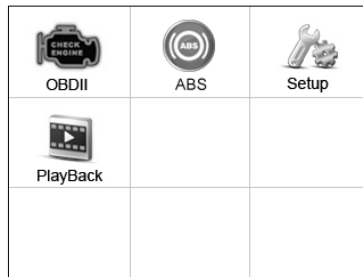

Figure 3.1
- 4) Power up the scan tool, and wait for the **Main Screen** to appear. (Figure 3.1)
- 6) Select **ABS** in the **Main Screen**. (Figure 3.1)